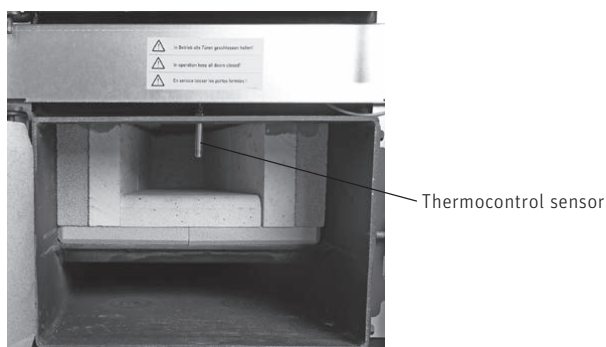

Fig. 39 Cleaning the thermocontrol sensor
- Clean fly ash off the thermocontrol sensor with a brush or soft cloth – Fig. 39.